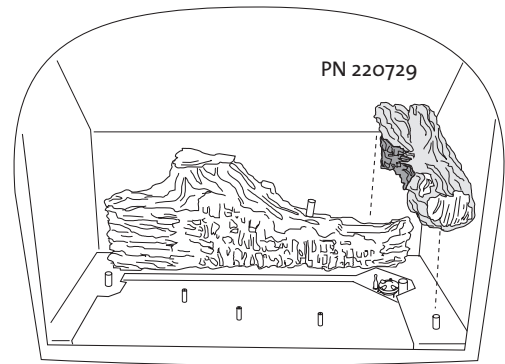

Figure 11. Install right log.
2. Locate the right log to overlap the rear log and engage with the peg as in fig. 11.